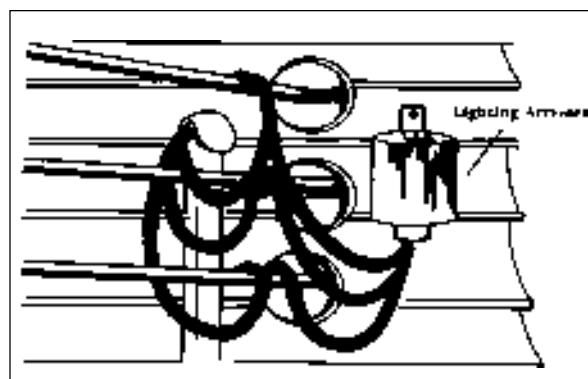

Figure 3
4. Lightning arresters protect a buildings' electrical wiring system (Figure 3). Arresters should be installed as part of a lightning protection system, or added to increase the effectiveness of an existing protection system. Arresters should be installed between the power circuit and ground, where the circuit enters a building served by overhead wires. Their purpose is to prevent dangerous surges of electricity into a wiring system if lightning strikes the power lines.